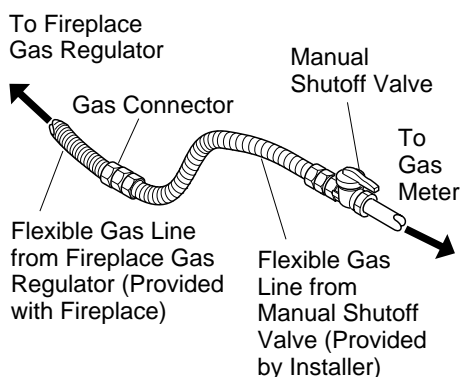

Figure 32 - Attaching Flexible Gas Lines Together
4. Attach a 45° flare union gas connector to flexible gas line from gas supply (see Figure 32). Connect flare union to flexible gas line attached to gas regulator of fireplace (see Figure 32).